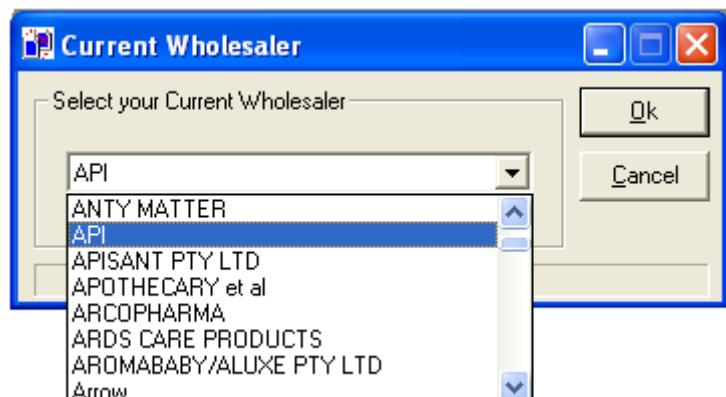

Figure 163
4. After selecting 'No', select a wholesaler by using the drop down list (as shown in Figure 163). Select your major wholesaler from the list then select the 'OK'.